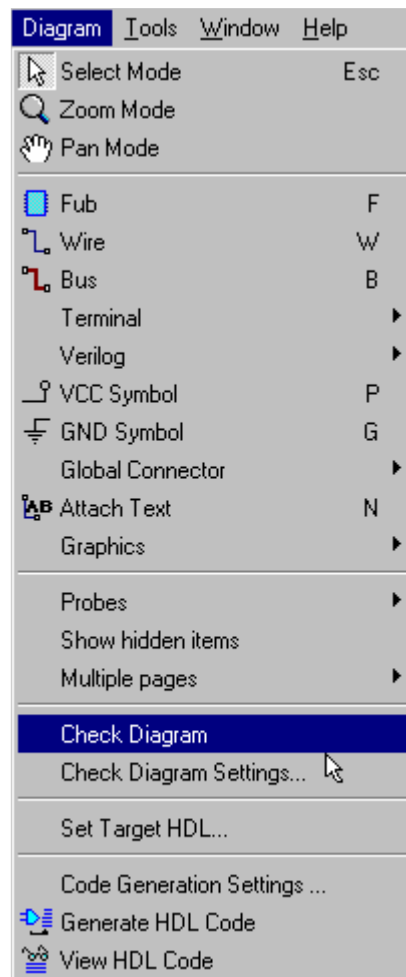
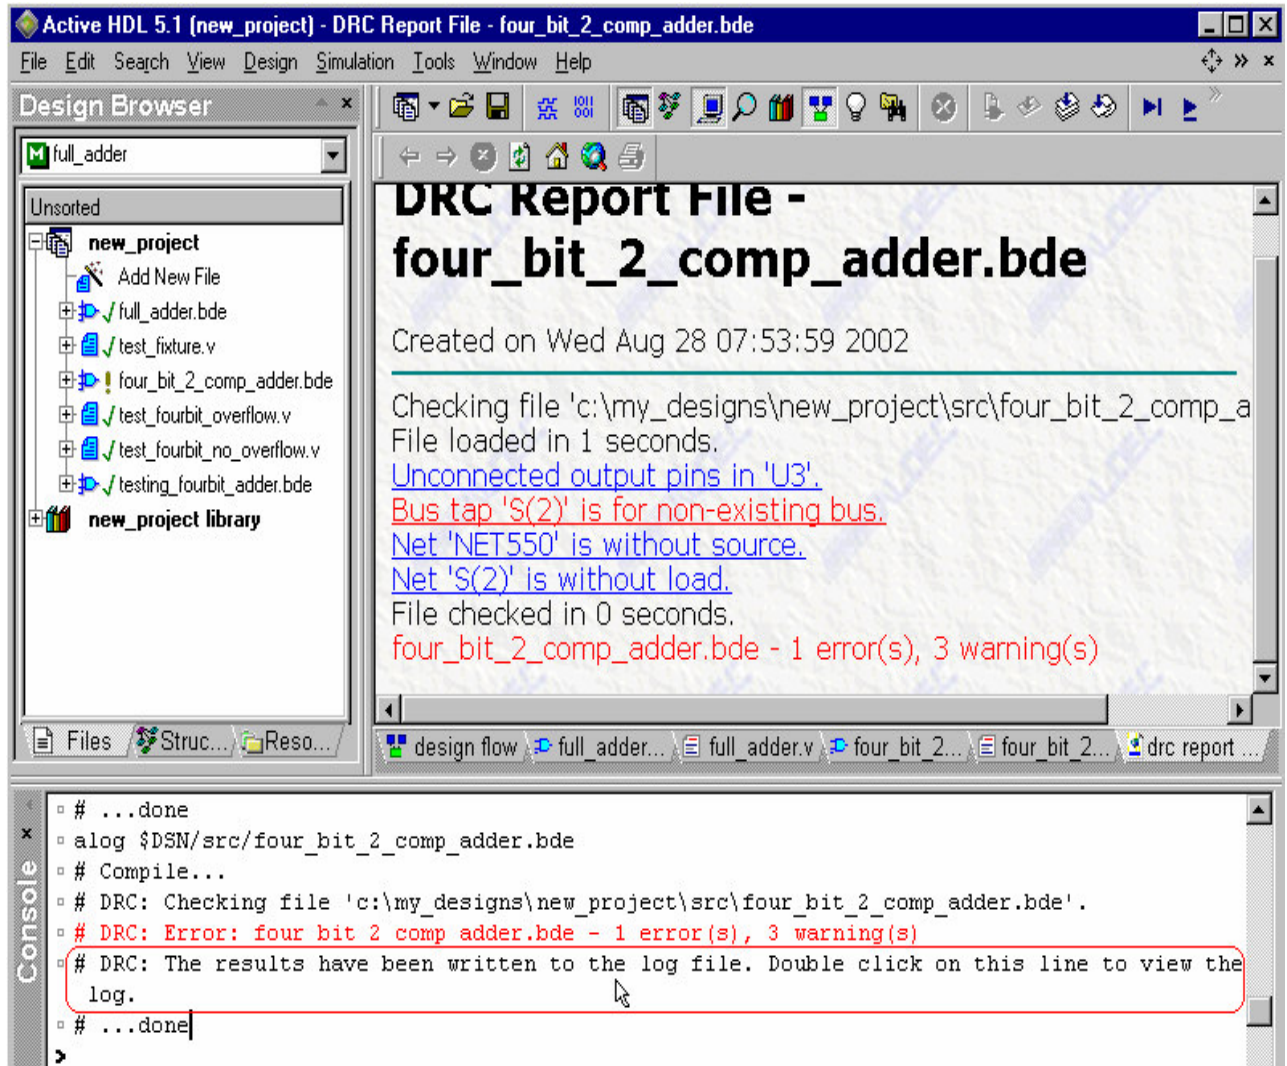

Figure 25
Figure 27
2. Active-HDL provides a "Check Diagram" tool. This tool will verify that the components are connected properly by printing the results into the Design Rule Check report (DRC). To open this report, go to the Console and double-click the line that states, "Double click on this line to view the log" (see Figure 27 in the DRC section). The DRC report is explained later in this tutorial. Always use the "Check Diagram" tool prior to compiling by clicking the Diagram/Check Diagram option in the menu bar (see Figure 25).
When you run the check diagram tool, a DRC report file is created. Open this file by going to the DRC line in the Console and double-click the appropriate line (see Figure 27). This file will list any errors or warnings your design might contain, such as unconnected ports, mislabeled wires and/or terminals, and other connection related errors/warnings. Each error/warning in the report is a hyperlink that will take you to the problematic component in your design. Figure 27 shows an example of a DRC report file for a schematic with an error and some warnings.